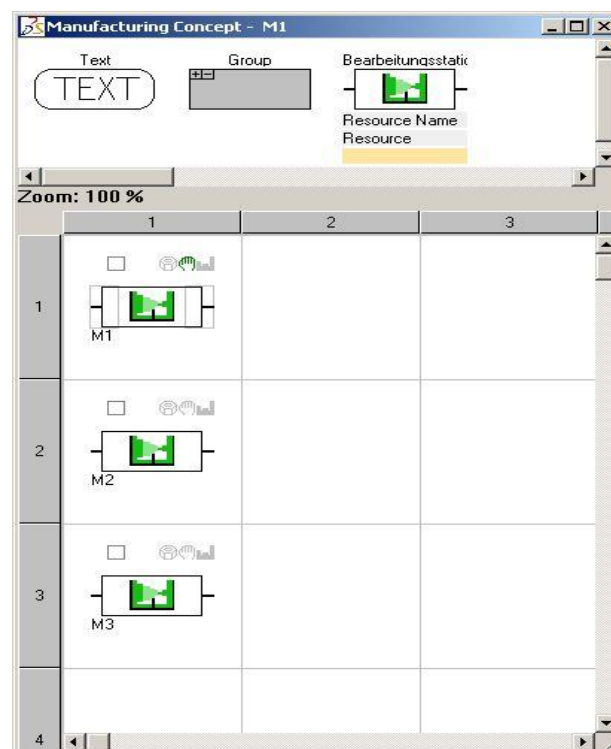

Figure 22: Manufacturing Concept of a Resource – three Integrated Resources
- 4) To open the Manufacturing Concept of a resource, you can either use the appropriate context menu or the icon above the new symbol. *Please refer to the Figure 22.*